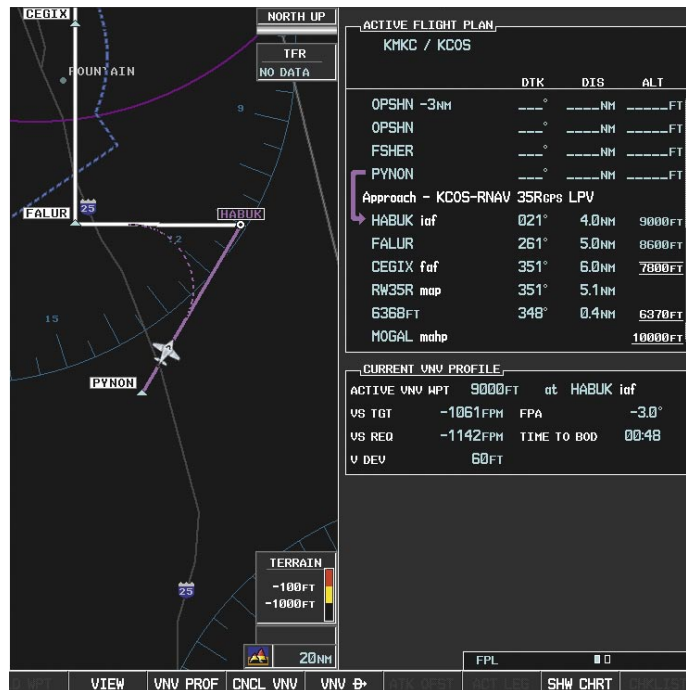

Figure 5-125 Approach is Now Active
- 21) Upon passing PYNON the approach procedure automatically becomes active. The approach may be activated at any point to proceed directly to the IAF. In this example, the aircraft has progressed through the final waypoint of the arrival and the flight plan has automatically sequenced to the IAF as the active leg, activating the approach procedure (see Figure 5-125).